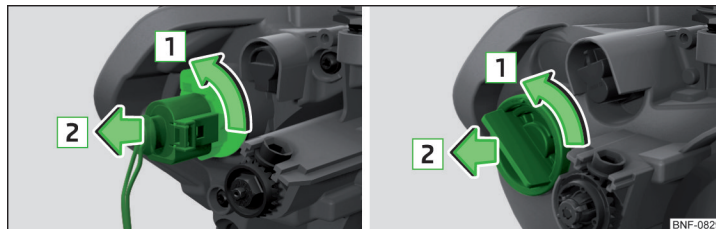

Fig. 175 Changing the bulb for the front turn signal light. Version 1/version 2
- › Turn the socket with the bulb to the stop in the direction of the arrow **1** » Fig. 175.